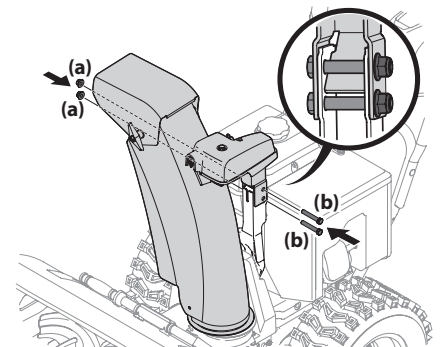

Figure 2-37
- Secure chute control head to chute support bracket with lock nuts (a) and hex screws (b) removed in Step 1. See Figure 2-37.